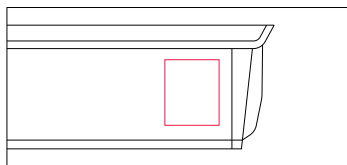

Figure 7
2. Please write down the serial number found on the battery beneath the barcode (fig.7) on the inside front cover of this manual to facilitate failure reporting. Products that have the serial number and/or barcode removed, defaced, damaged, altered, or made illegible will not be covered by the warranty.